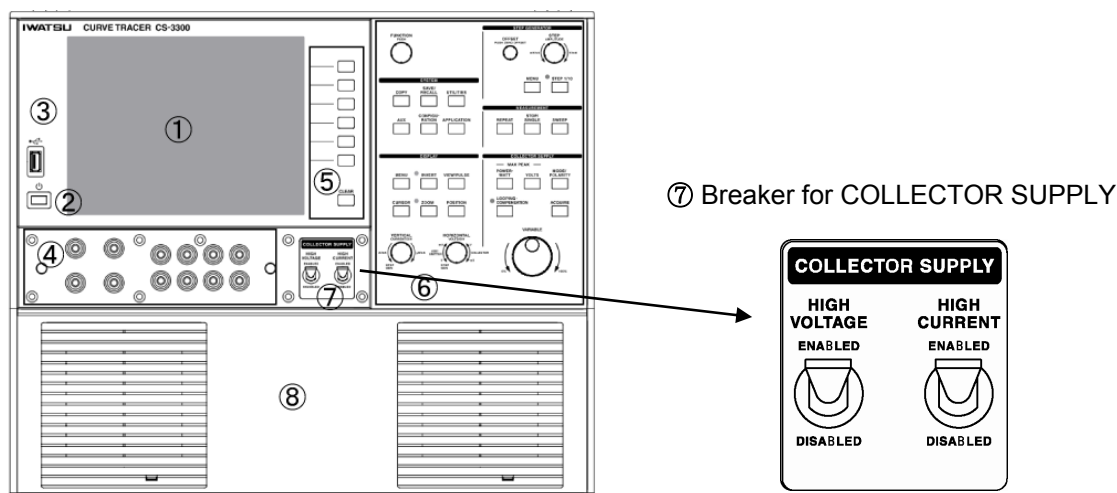

Figure 2.1 Front panel
Figure 2.1 shows the front panel of CS-3200/3300 (This instrument does not have HIGH CURRENT part ⑧) and Table 2.1 lists name and function of each part.